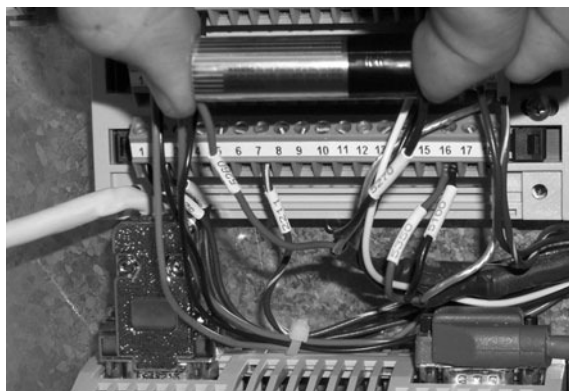

Figure 9-6: Servo Amp Test
- b. To test the arm amp, enable it by moving the red wire #5350 (deck 3/12) to the black wire #5100 (deck 3/16) (Figure 9-6).